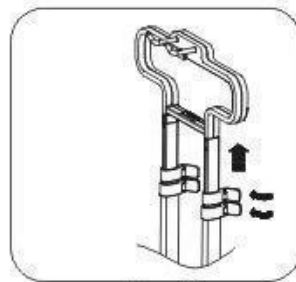

Fig. 5
- Fig 5: Adjust to desired length and fasten the clips on the telescopic poles.